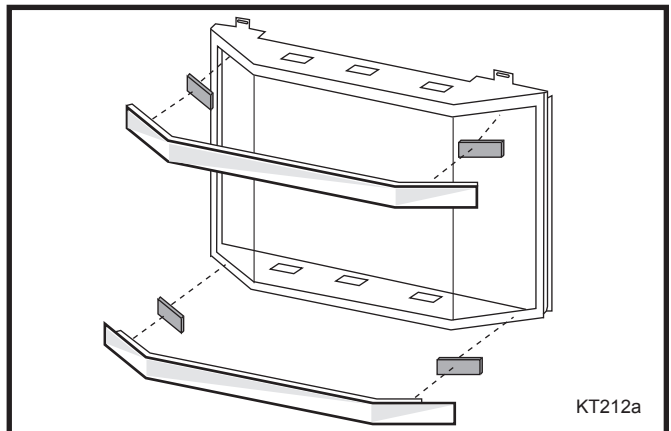

Fig. 55 Attach magnets and brass trim to the steel frame.
6. Install brass trim to the steel frame. (Fig. 55) (Only for HESBTKP trim).
7. Install brass trim to the steel frame. (Fig. 55)